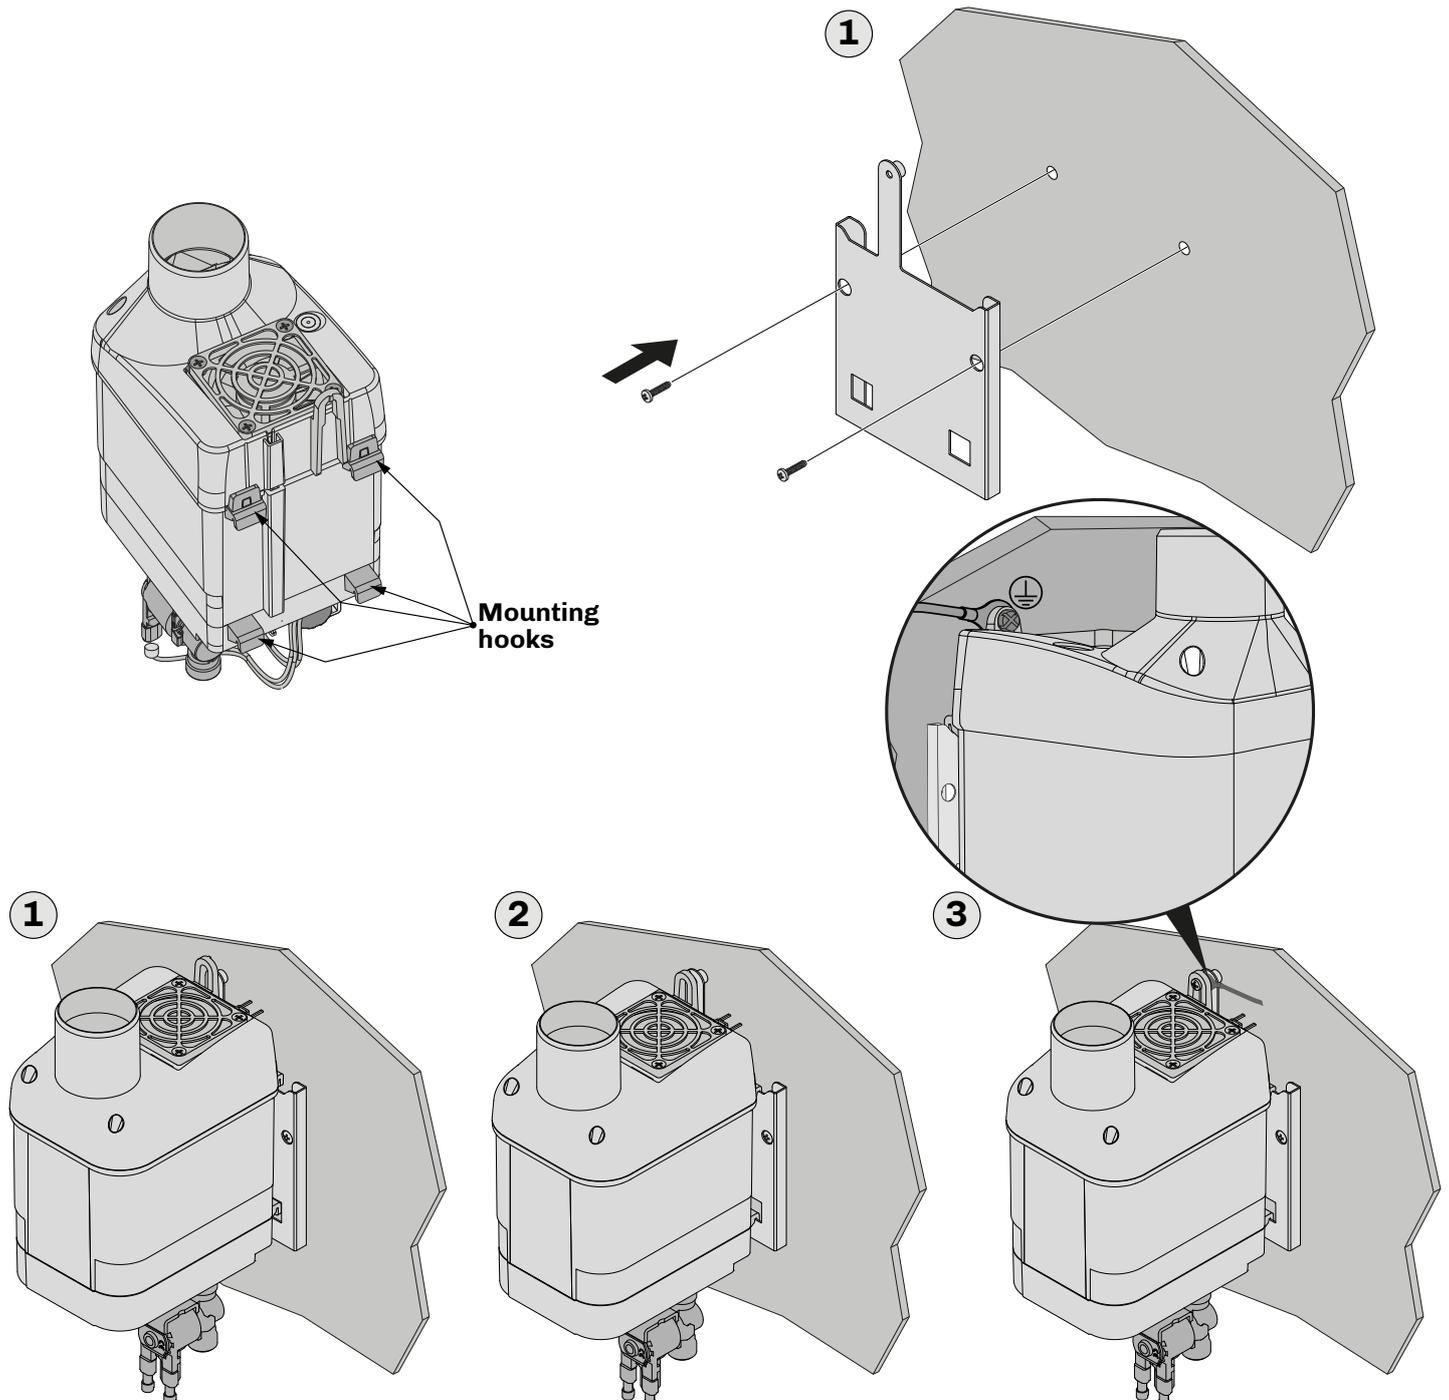

Fig. 8. Instructions for mounting with a support bracket
- Secure the support bracket to the wall following the instructions given in the picture **"FIG. 8. INSTRUCTIONS FOR MOUNTING WITH A SUPPORT BRACKET"** ON PAGE 22 and the dimensions of the holes and bracket given in the subsection **"4.5.1 SUPPORT BRACKET DIMENSIONS"** ON PAGE 21 (1);
- Attach the **Mistral** humidifier to the bracket, making sure it is secure (2);
- Secure the humidifier to the wall, where the support bracket is mounted, and the earthing connection using an **M4** flat-head screw, which is appropriate for the fixing wall (3).